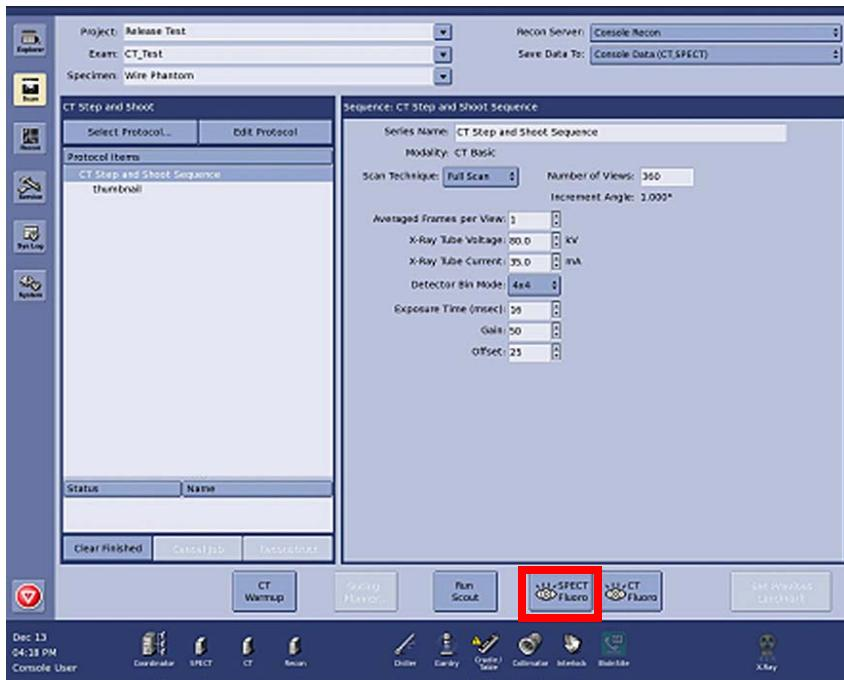

Figure 4-18
2. Click on the SPECT Fluoro button (Figure 4-18).